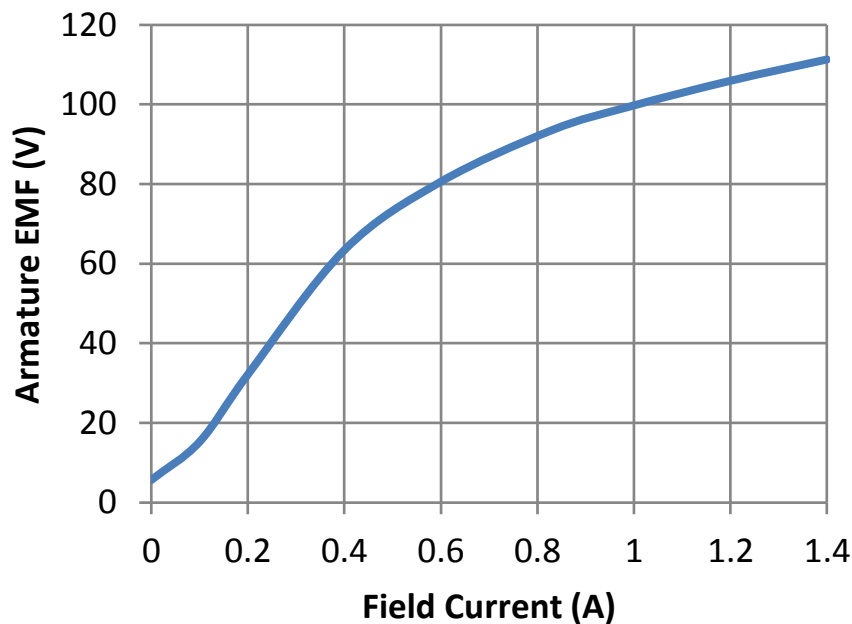

Figure Q3 Magnetising curve
- Q3 A 100V, 12kW, 1000rpm shunt DC motor has armature resistance of 0.5Ω and shunt field winding resistance of 80Ω . Field current is controlled using a variable resistance in series with the field winding. The magnetisation curve for the machine at 1000rpm is shown in Figure Q3. When connected to a 100V supply, under no-load conditions, the motor runs at 1000rpm and the armature takes 6A.